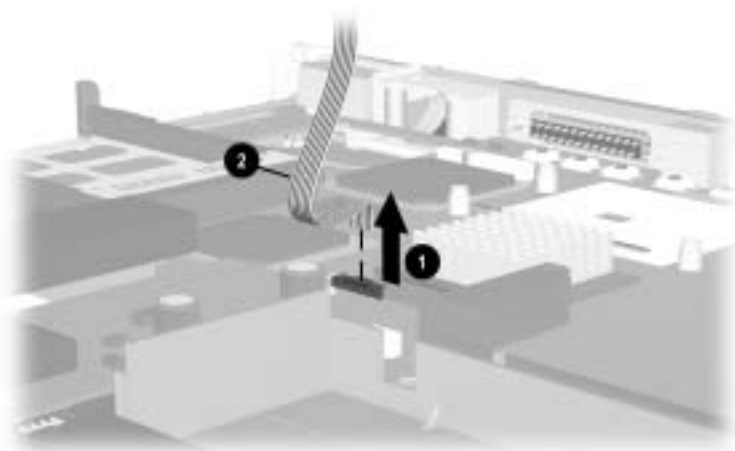

Figure 5-40. Removing the System Board-to-TouchButton Board Cable
7. Release the ZIF connector ❶ to which the system board-to-TouchButton board cable is attached and disconnect the cable ❷ from the system board (Figure 5-40).